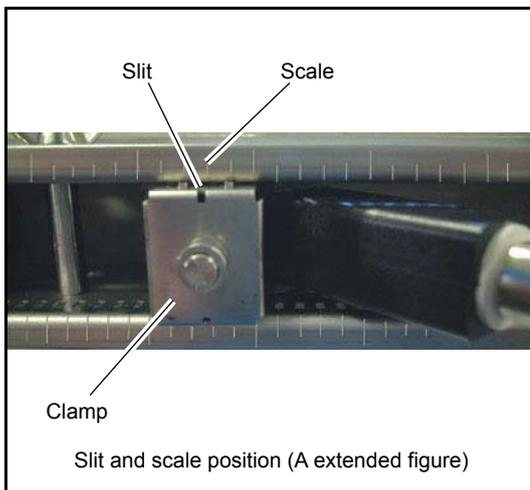

Fig. 5-11
- (2) Before mounting the sensor unit into the frame, sufficiently apply acoustic coupler (or silicone-free grease*) over the entire transmission surface of the sensor unit, taking care not to introduce bubbles. (Fig. 5-11)